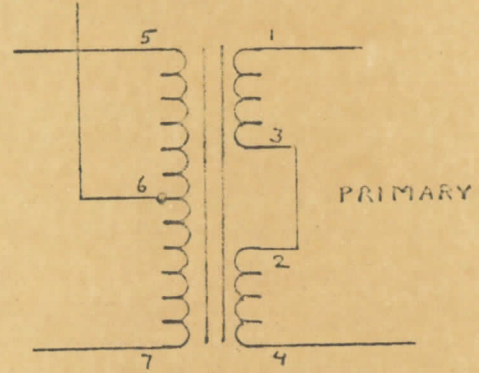

Figure 2-3. Transformer Wiring Diagram, CHGR
b. POWER SUPPLY. - CHGR is designed for 115- or 230-volt, 50- or 60-cycle, single phase power operation. CHGR is wired at the factory for 115-volt operation; if 230-volt operation is required, wiring changes must be made as indicated in figure 2-3.